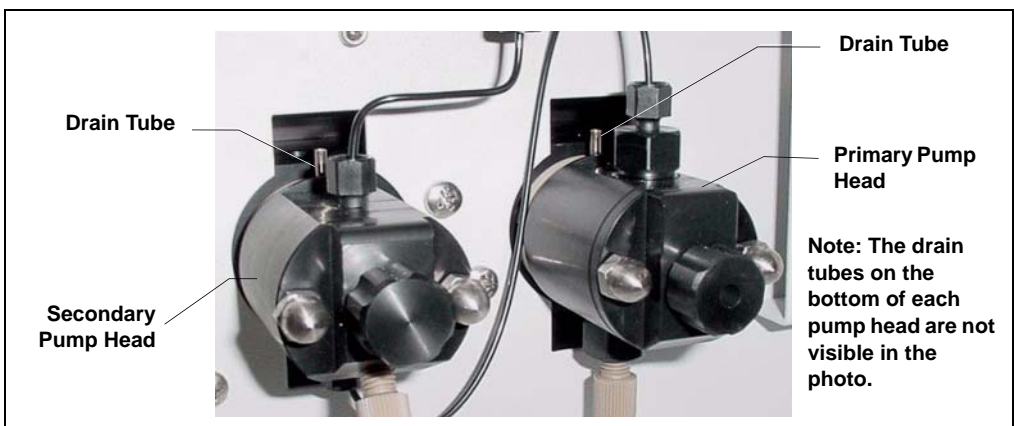
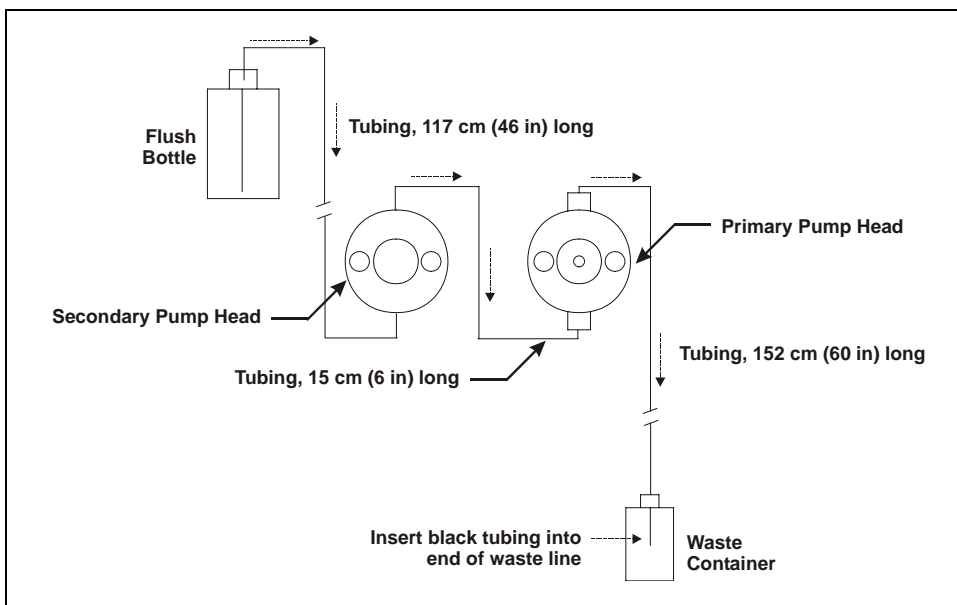

Figure 113. Primary and Secondary Pump Heads with Drain Tubes
Figure 114. Piston Seal Wash Flow Schematic
4. Install the tubing as follows (see Figure 113 and Figure 114):